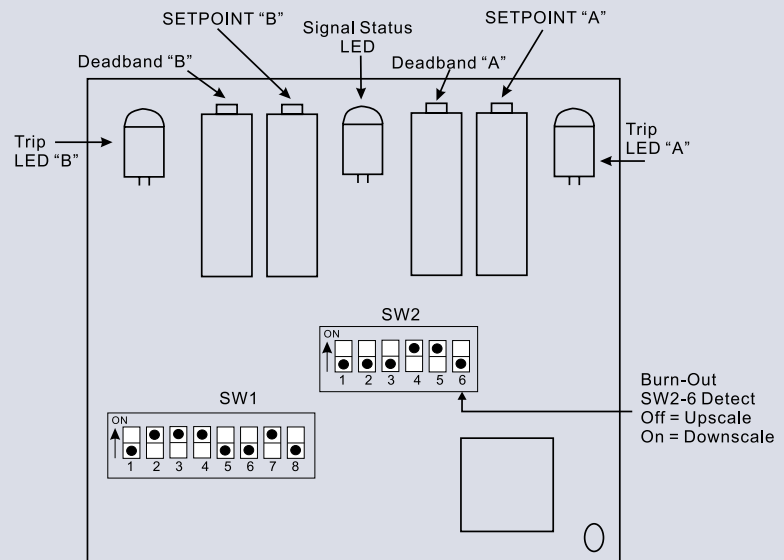

Figure 4: AP1290 Factory Calibration Type "J" 0-360°C Dual HI/LO, Non-Latching, Non-Failsafe
Refer to Figure 4 for switch locations.
2. Choose the desired upscale/downscale thermocouple burnout detection by setting position 6 of SW2. See Figure 4.